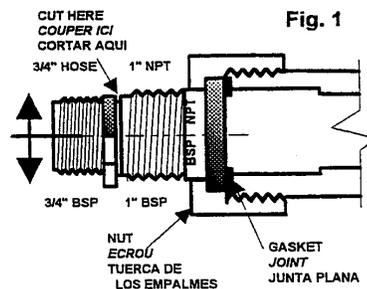

Fig. 2
- Put enough water in the Solution Container to cover the solution filter by at least 2 inches (**Fig. 2, pg. 6**) as shown in photo below. Add food coloring to water to aid in testing that the injector has been properly installed as you proceed to “**Start-up Procedures.**”